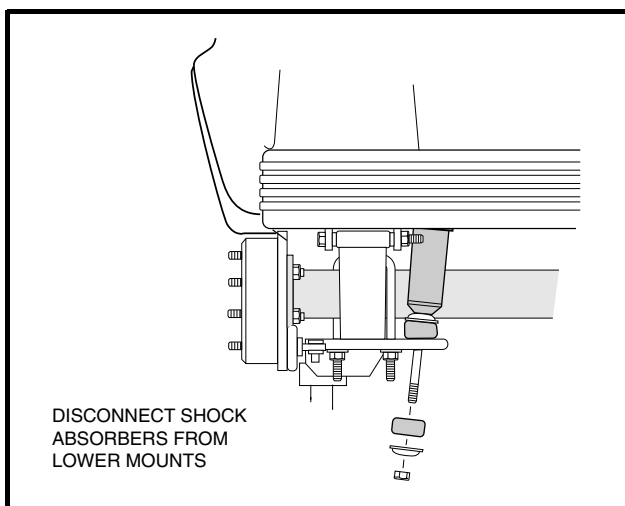

Figure 16-10 Disconnect Shocks
5. Disconnect the shock absorbers from their lower mounts (**Figure 16-10, Page 16-8**).